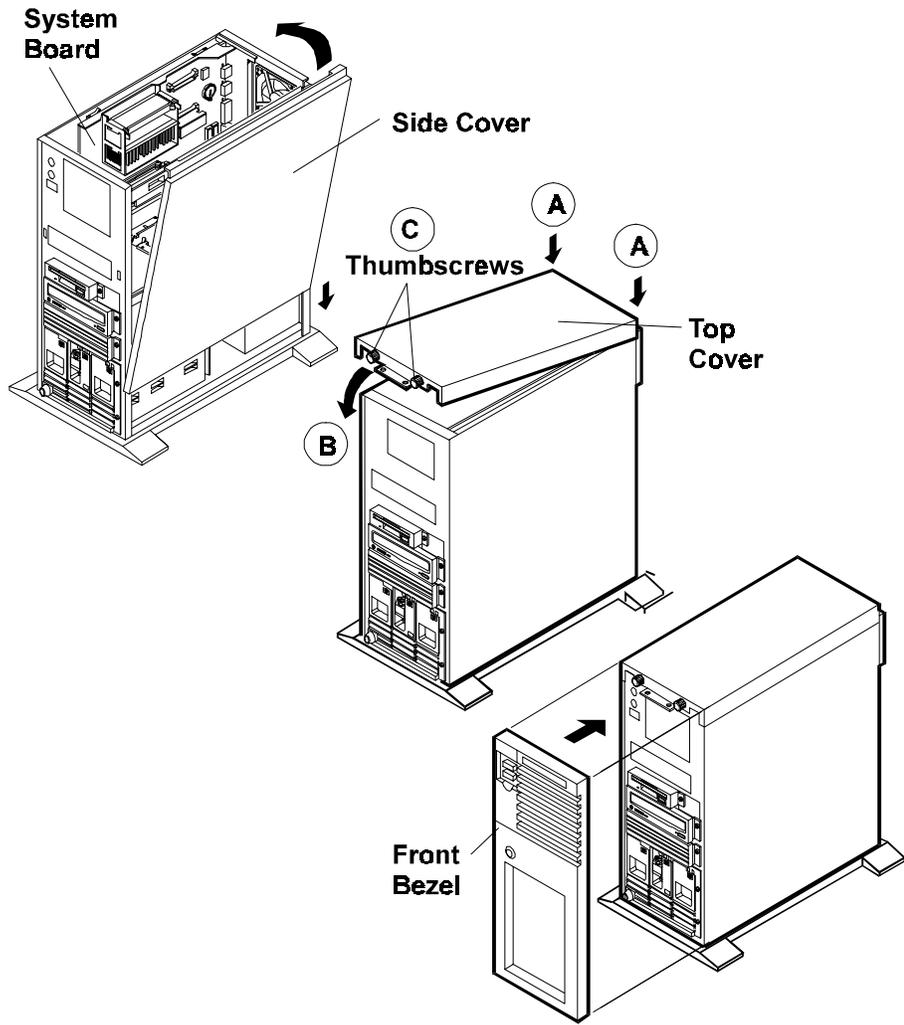

Figure 1-6. Replace All Covers
Refer to Figure 1-6 and replace all covers.
3. To replace the top cover, see the illustration in Figure 1-6, Steps A, B, and C, and do the following: